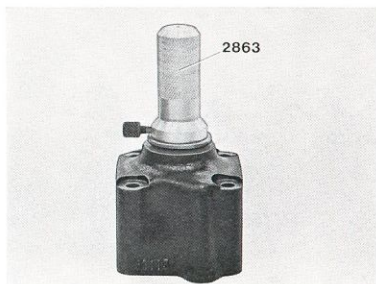

Fig. 6-90. Fitting sealing ring
- Fit the sealing ring (54) on the fitting tool 2863 with the help of the loose guide. Remove the guide and fit the sealing ring in the valve housing, see Figs. 6-90 and 6-72. The sealing ring should face inwards. Fit the circlip (53).